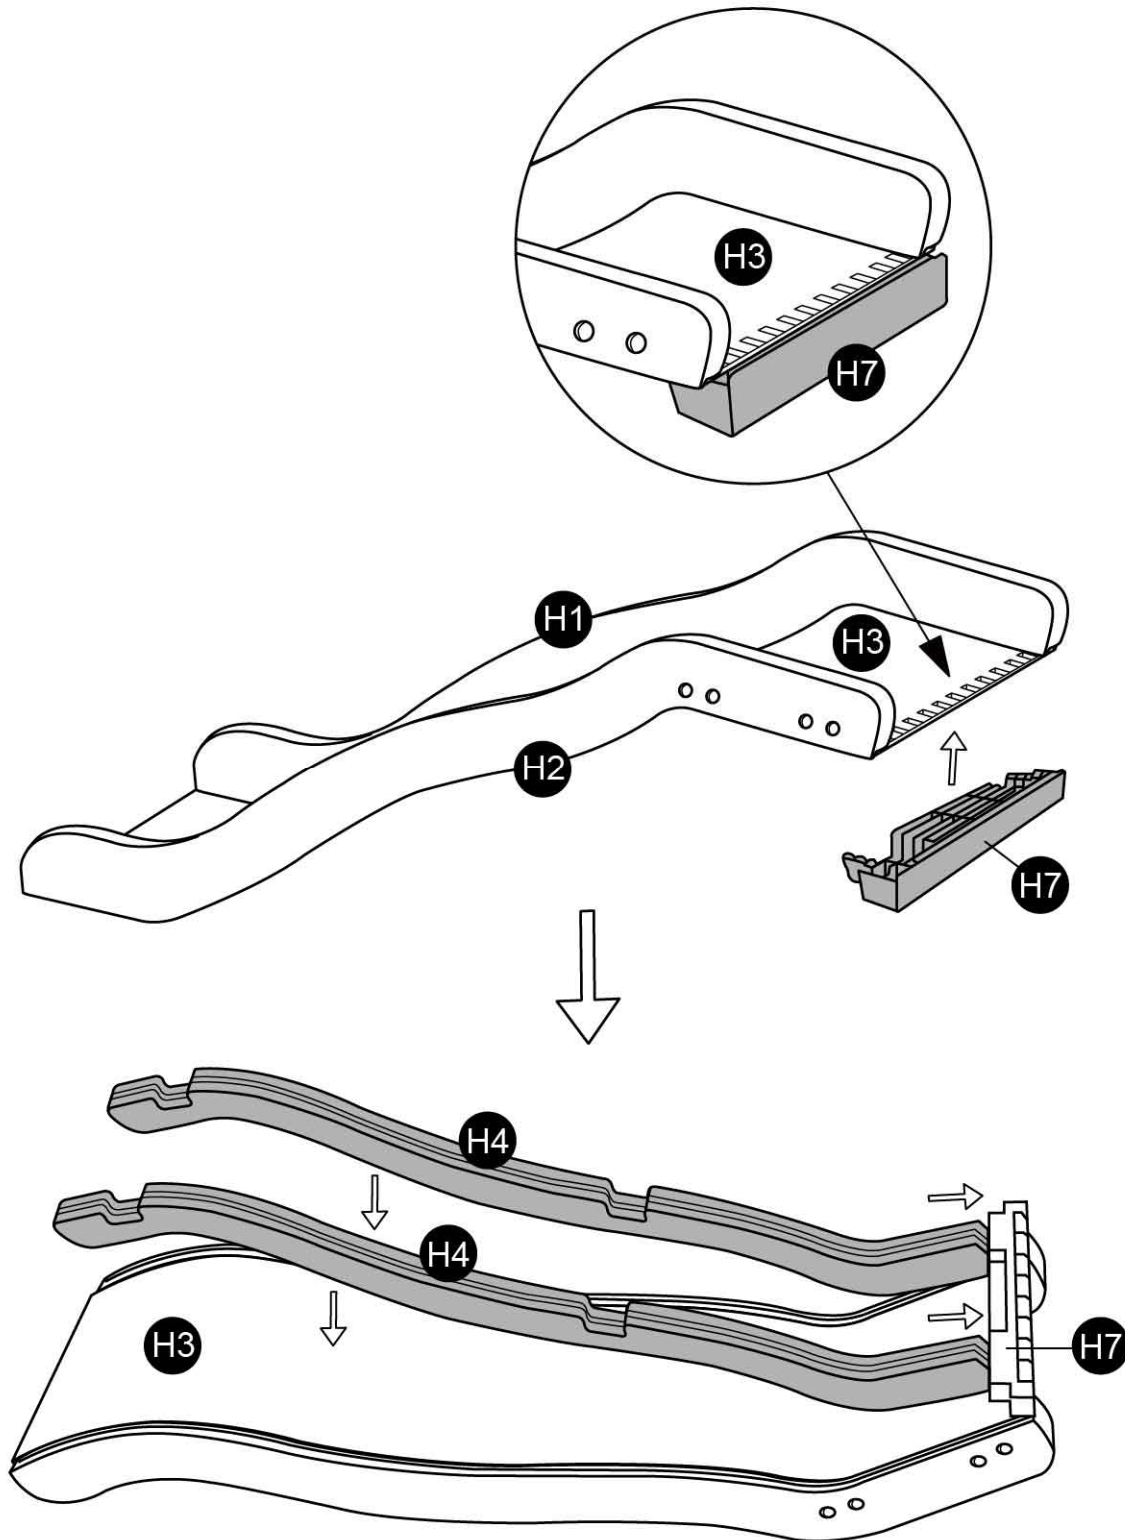

FIGURE 8
- After assembling H7, turn slide over and snap H4 into the slots on H7 as shown in FIGURE 8.